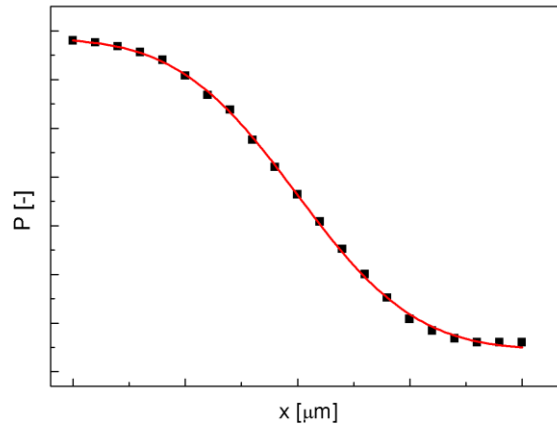

Fig. 5 The typically curve obtained during the measurement by the Knife Edge method
In the case when the beam is not covered by the blade the measured power reaches its maximal value. On other side the measured power is minimal when the blade covers the whole laser beam. We obtain a similar dependence as is shown in the Fig. 5 by progressively covering of the beam.
Check up the shift of blade in the x - axis from the position where it fully blocks the laser beam to the position where the beam is not blocked and therefore it fully incidents on photodiode. Calculate the measurement step in order to perform approximately 20 measurements. Afterwards measure the voltage change on the photodiode with the calculated step. The obtained transversal profile of the laser beam should be similar as the curve shown in the Fig. 5. It is important to determine the maximal and minimal value of the curve (points on the wings of the curve). More point on the wings of curve is useful and helpful for the fitting using formula (4).
5. Choose a new function in category *user defined* and in the dialog window (bottom) insert the right side of the function (4). In the box *Parameters* define the variable names and save this new function.
8. If the software finds the solutions and variables values, the red fitted curve will be shown in the graph. The fitted curve should be similar as a curve shown in Fig.5. If the fitting is not successful, you should try to insert different initial values.
11. Values beam radius  $w$  depending on the position  $z$  fit by equation (2) and determinate beam waist  $w_0$  and Rayleigh's range  $z_0$ .
12. According to these parameters calculate the  $M^2$  parameter and divergence  $\theta_0$  using by the equation (3). The He-Ne laser wavelength is 632.8 nm.